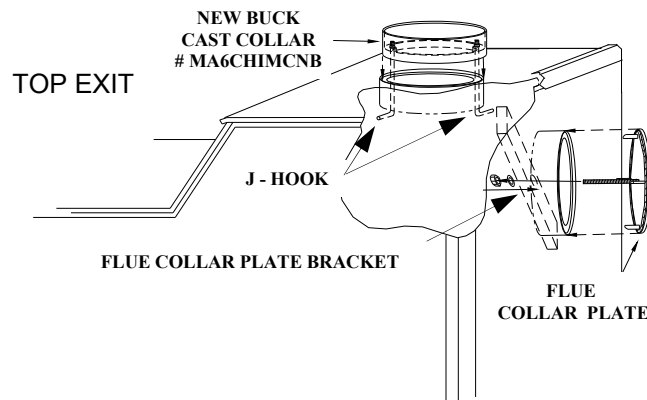

Figure 2.
7. Next fasten New Buck's Cast Collar part number MA6CHIMCNB to the flue exit of stove to be used, using the J hook's provided. Position collar with gasket towards the unit, tighten the J hook's **Firmly** . (See Figure 2).
8. Fasten New Buck's Flue Collar Plate to the exit not used for burning stove. Firmly secure the Flue Collar Plate Bracket with the nut and washer provided .(See Figure 2).